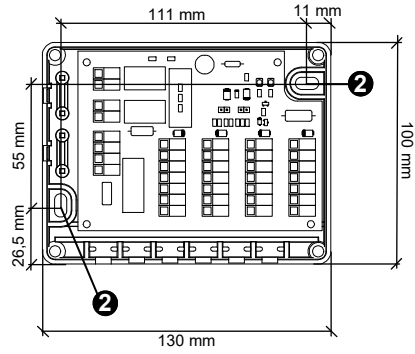

Fig. 2: Internal view and parts
- Fix the device base to the wall by using the two screw holes labelled ❷ in Fig. 2.